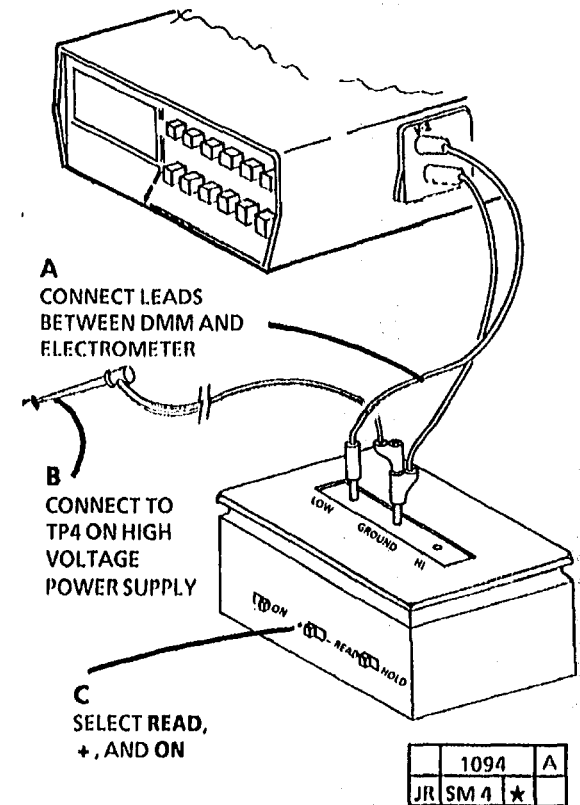

Figure 5. Connecting the Electrometer
12. (Figure 5): Connect electrometer to DMM.